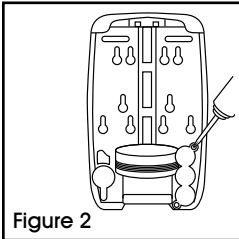

Figure 2
2. Remove two screws securing battery box cover using Phillips screwdriver. (See Figure 2)